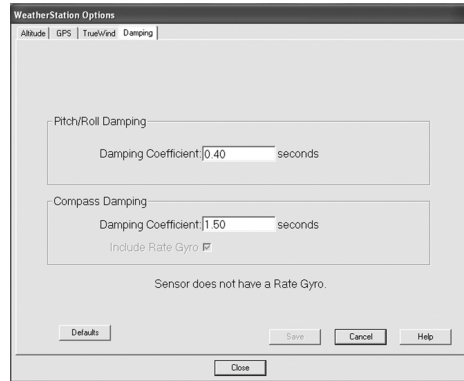

Figure 35. Damping options window
*Damping is used to control electronic noise for more accurate pitch and roll and compass readings. To change a damping coefficient, enter the number in the appropriate text box (see Figure 35). For more information, click Help. To accept the change, click Save.*